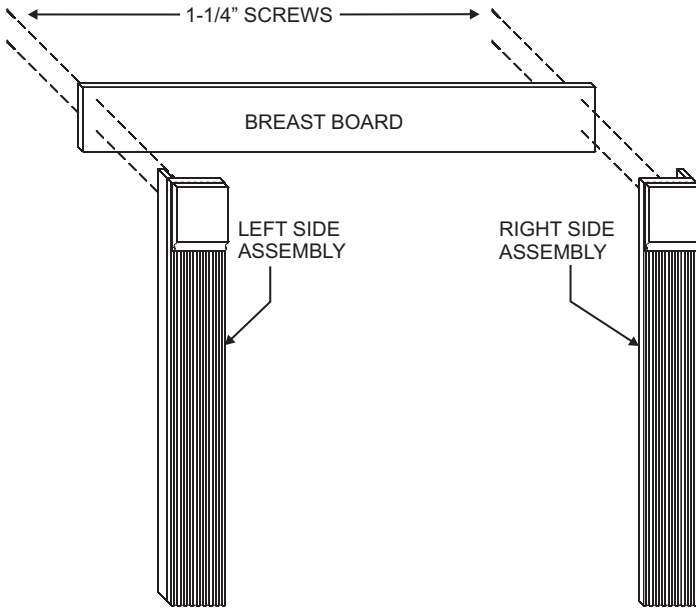

**Figure 1**
1. When modifying the surround (HWFMS48(UO,W)) to match the HWMS60(UO,W) mantelshelves, the cuts shown in Figure 1 give the best appearance. No modification is necessary for the HWFMC72.